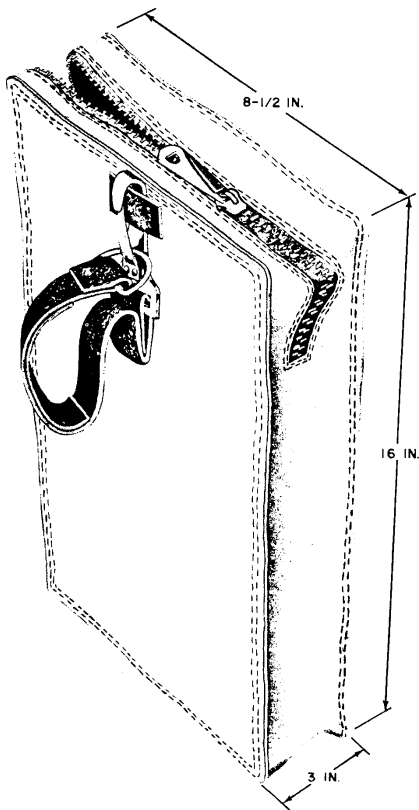

Fig. 7—B Glove Bag
- 3.08 The B glove bag (Fig. 7) is used to store the central office test cords.